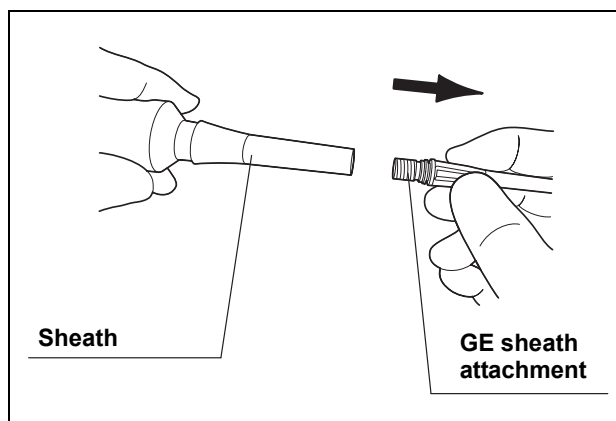

Figure 7.13
3. While holding the sheath and the sheath attachment, remove the attachment by turning it counterclockwise (see Figure 7.13).